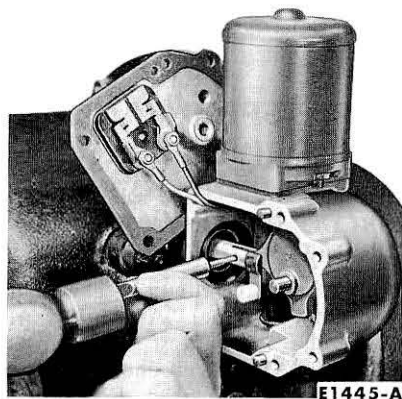

FIG. 3—Roll Pin Removal
4. Drive the roll pin from the shift shaft and eccentric connecting rod as shown in Fig. 3. The tool shown in Fig. 3 has a $\frac{5}{8}$ -inch body and a $\frac{5}{32}$ -inch nose section.